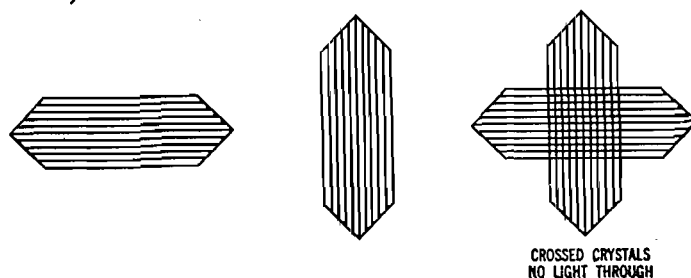

Fig. 33.6. Schematic diagram of tourmaline crystals.
**201. Polarized Light.** It has been found experimentally that crystals of tourmaline, a semi-transparent mineral, transmit a part of the light which falls on them and absorb a part. These crystals act as if they have parallel openings in them as shown in Figure 33.6. If one of these crystals is held in a beam of light, it is found that the light which is transmitted is vibrating in one plane only. If a second crystal is placed in the path with its axis